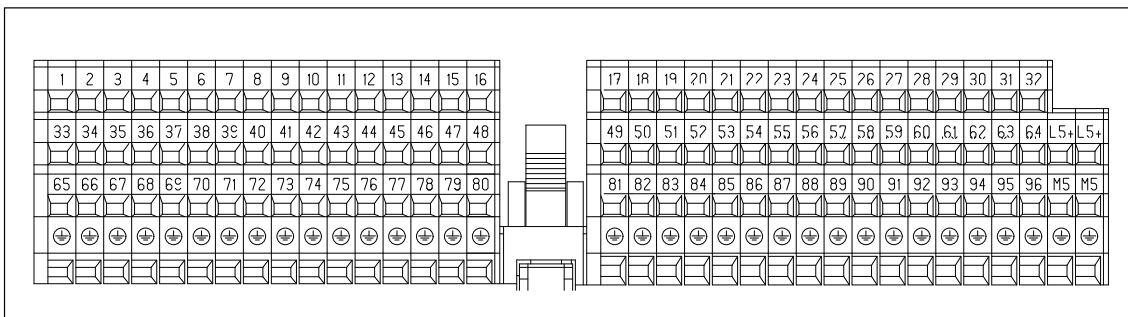

Figure 7-10 Terminal Numbering: Terminal Block TB2-4/DC (Screw-Type Terminal, 4-Tier)
**Terminal Numbering** Figure 7-10 is an enlargement of the terminal numbering printed on the TB2-4/DC (screw-type terminal, 4-tier).